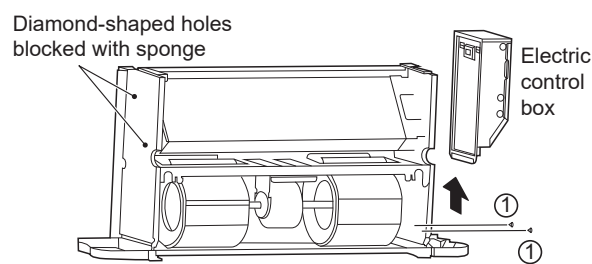

Figure 5-19 Removing the electric control box and blocking the diamond-shaped holes
As shown in Figure 5-19, remove screws ①*2 to take the electric box out.
As shown in Figure 5-19, block the diamond-shaped holes on the side plate (the plate without inlet and outlet pipes) with sponge.